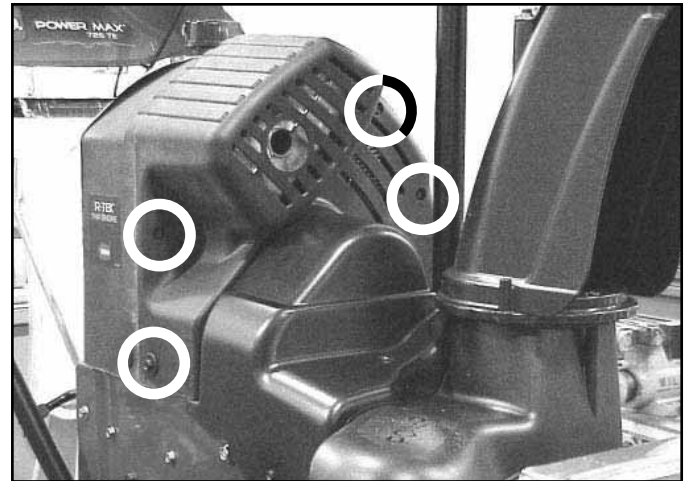

Fig 003
1. Remove the three screws across the front of the engine shroud and 2 screws on each side where the front and rear shroud meet (Fig. 003).